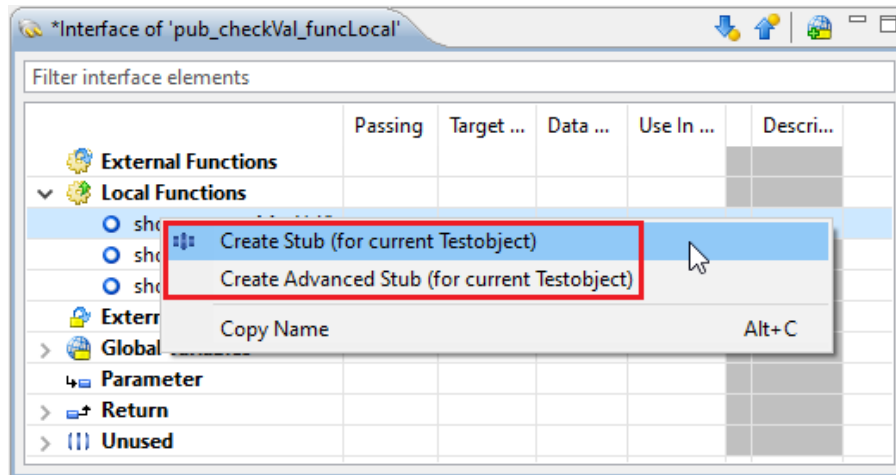

Figure 6.157: Create a stub function within the context menu
- Right-click the function and choose “Create Stub” from the context menu (see figure 6.157).